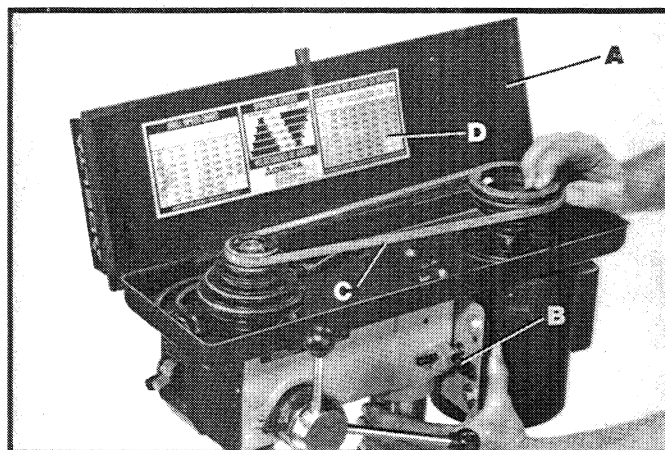

Fig. 25
2. Lift up the belt and pulley guard (A) Fig. 25.
3. Release belt tension by loosening tension lock knob (B) Fig. 25, and pivoting the motor toward the front of the drill press, as shown.
4. While holding the motor toward the front of the drill press head, position the belt (C) on the desired steps of the motor and spindle pulleys, as shown in Fig. 25. A belt positioning and drill speed chart (D) is provided on the inside top cover of the drill press for your convenience.